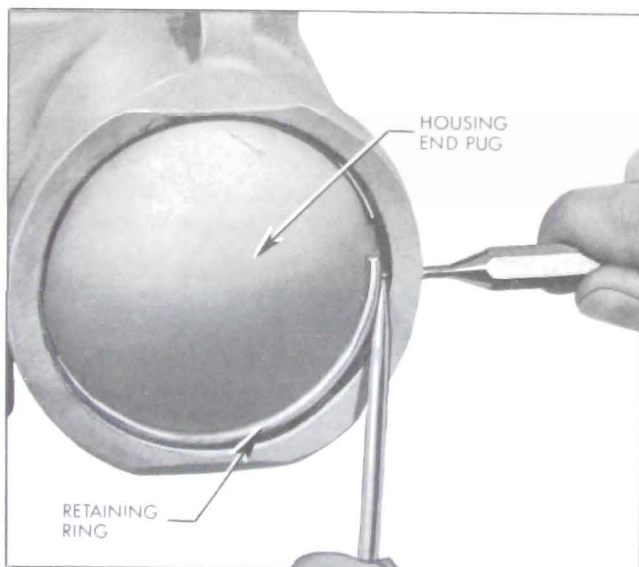

Figure 8-48—Removing Housing End Plug Retaining Ring
3. Rotate housing end plug retainer ring so that one end of ring is over hole in gear housing. Spring one end of ring with punch to allow screwdriver to be inserted to lift ring out. See Figure 8-48.